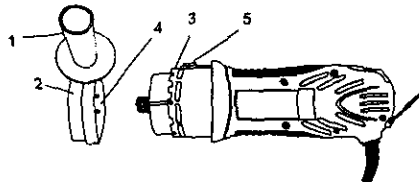

Fig. 24
1. Loosen angle grinder attachment side handle (1) by turning it counter-clockwise (see Fig. 24).
2. Slide mounting collar (2) over motor housing (3).